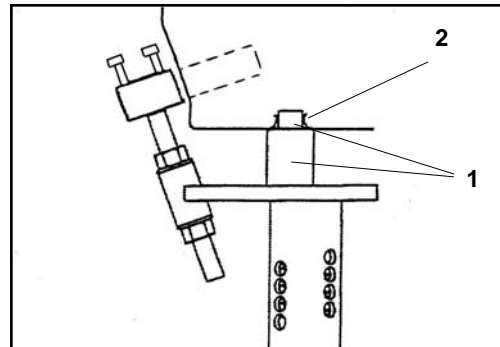

Figure 4
4. Adjust height of the tube and fully engage the post with the lift tab hole on underside of rocker panel. (See Figure 4.) Then insert Anchoring stand's height adjustment pin to prevent the assembly from dropping out of position.